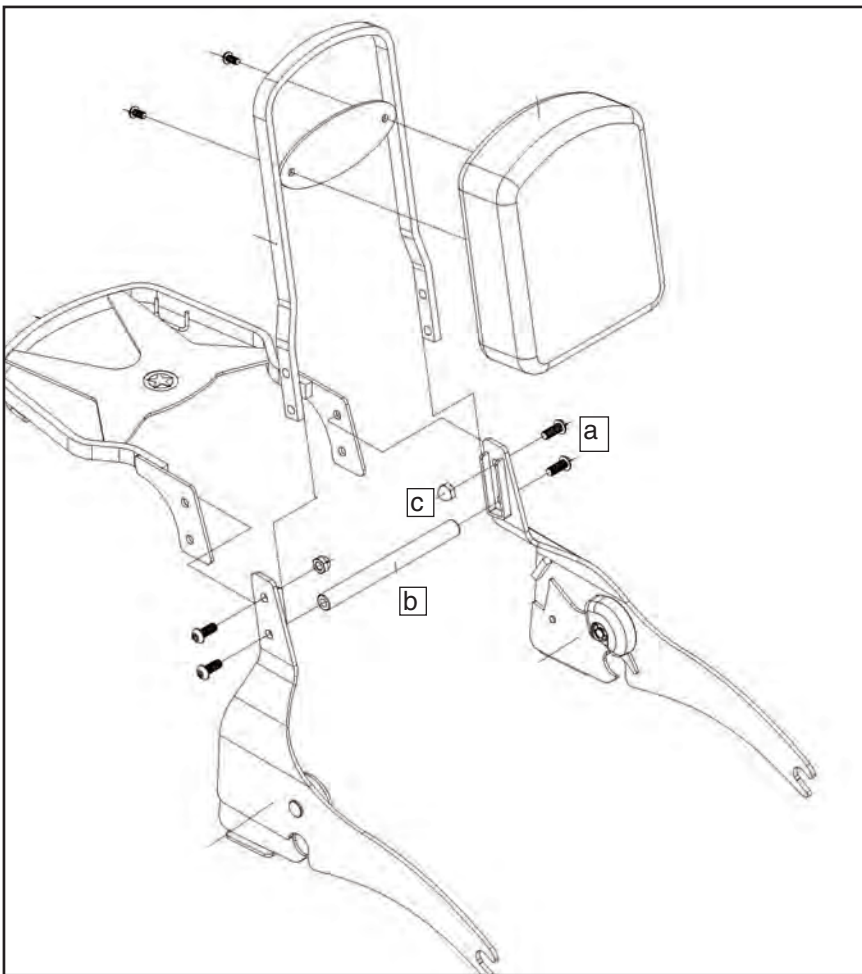

Figure 3
1. Assemble side plates (1) or (1A) and (2) or (2A) to the Paladin backrest alone or with the Paladin luggage rack. **(5mm Hex Wrench) Figure 3**
2. Use the button head screws (a) and the support stay (b) provided with the backrest and cap nuts (c) provided in bag#529 to complete assembly of the side plates. **(5mm Hex Wrench and Thread Lock) Figure 3**